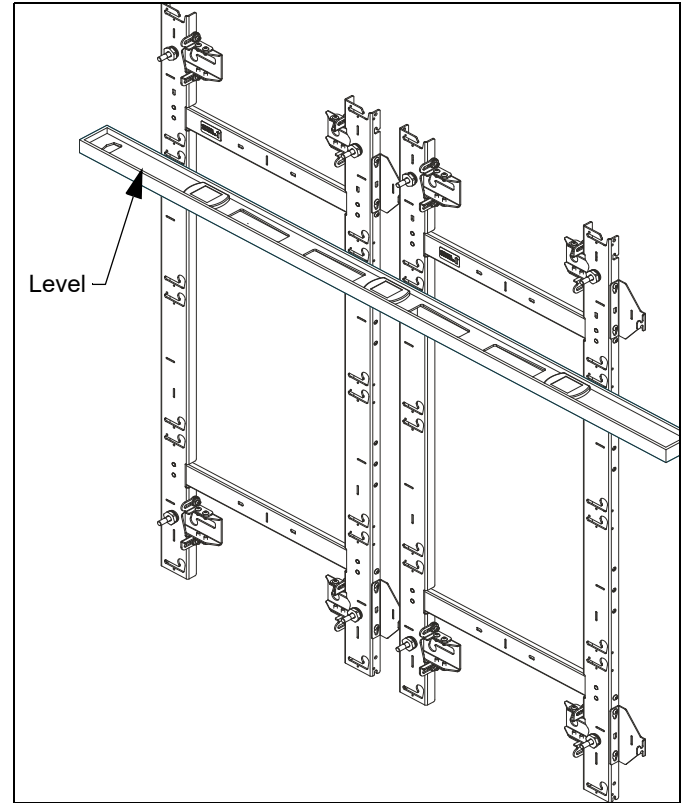

Figure 14
4. Check the plumb of the second mount against the previously installed mount and adjust so that both mounts are on the same plane. (See Figure 14)